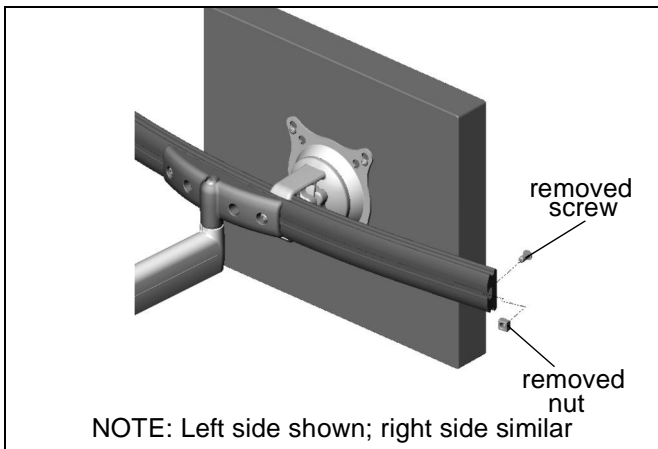

Figure 8
- Position the displays as desired and tighten the Centris head knob closest to the array (D). See "ADJUSTMENT" for additional information.
- Using 5/32" hex key, install removed screw and nut on each end of the array (D) to prevent displays from accidentally sliding off. (See Figure 8)